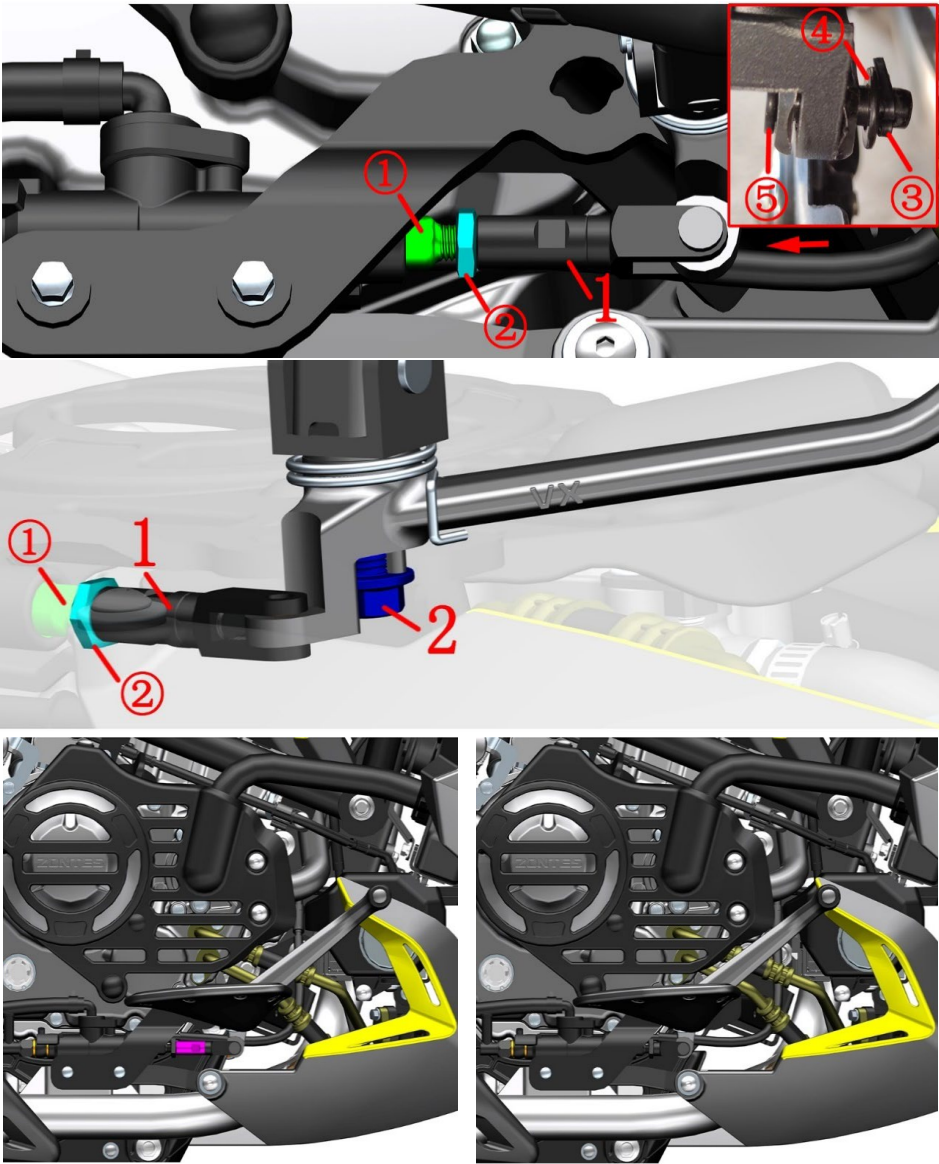

Fig.2 FOOT PEDAL COMPONENT		Front right pedal mounting position adjustment		CHK
Remove the circlip (4), remove the pin (5) and separate the foot support (7), torsion spring (6) and right foot pedal. Remove the rubber pad (8) from the right foot pedal (9). During reassembly, apply an appropriate amount of grease on the cylindrical surface indicated by the arrow in Figure 1 to reduce friction. When assembling the rubber pad (8), pay attention to that the limit boss at the arrow in Figure 2 should be assembled in place.